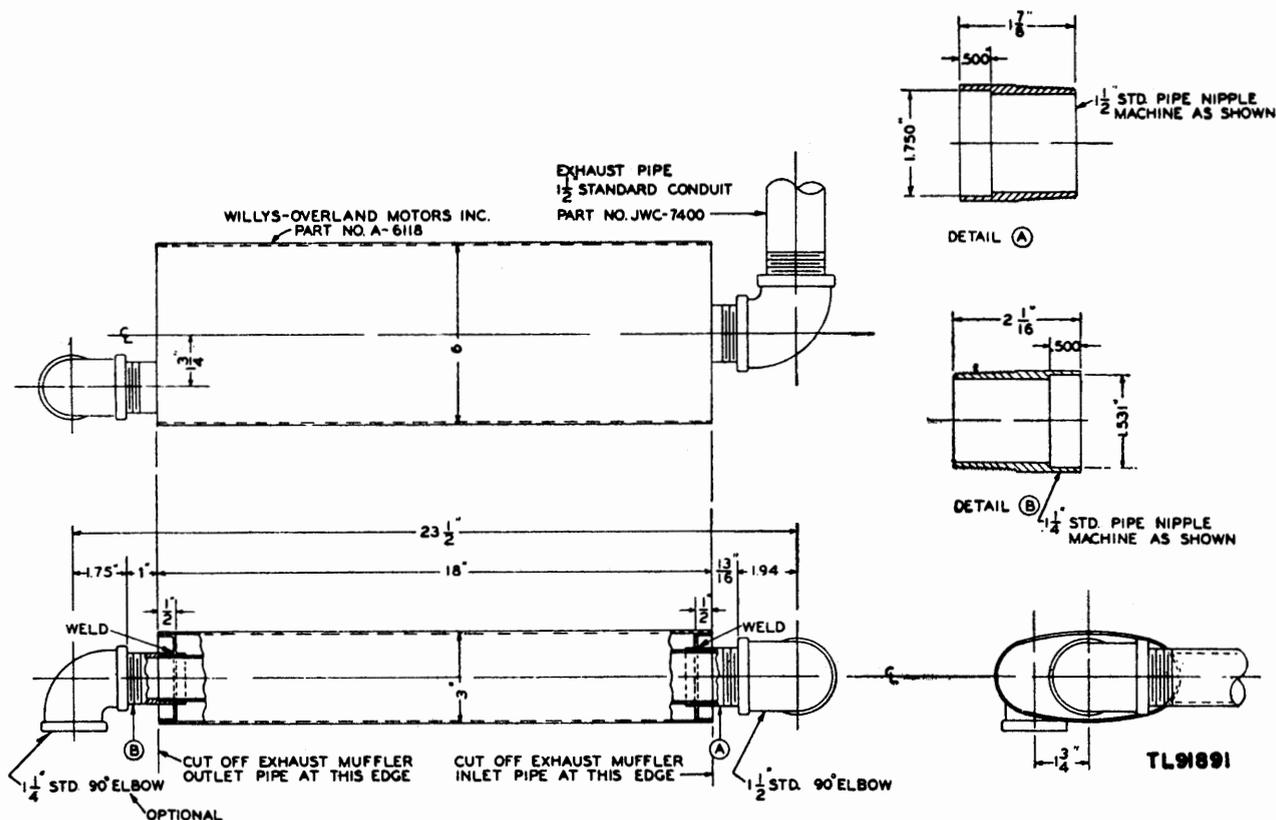

Figure 50. Adaptation of Willys muffler.
e. **USE OF STANDARD WILLYS MUFFLER.** In an emergency the standard Willys muffler, Willys part No. A-6118, as used on Willys truck, model MB, $\frac{1}{4}$ -ton, 4 x 4, built for the United States, may be adapted for use on Power Unit PE-95-(2) (fig. 50). The procedure is as follows:
(1) Saw the inlet and outlet tubes of the Willys muffler off even with the ends of the muffler proper. Because of the recesses in the muffler ends this will leave about $\frac{1}{2}$ inch of tube protruding from the muffler at each end.
(2) Center a standard $1\frac{1}{2}$ -inch pipe nipple, at least 3 inches long, in a lathe chuck. Cut off the protruding end of the nipple so the piece remaining in the chuck is $1\frac{7}{8}$ inches long. While still in the chuck, bore to a diameter of 1.750 inches and to a depth of 0.500 inch. Remove from the chuck and place it on the protruding $\frac{1}{2}$ inch of tubing on the muffler inlet. See that it fits snugly over the tubing and sets against the end of the muffler. Make a strong, tight joint by welding entirely around the fitting where it meets the end of the muffler.